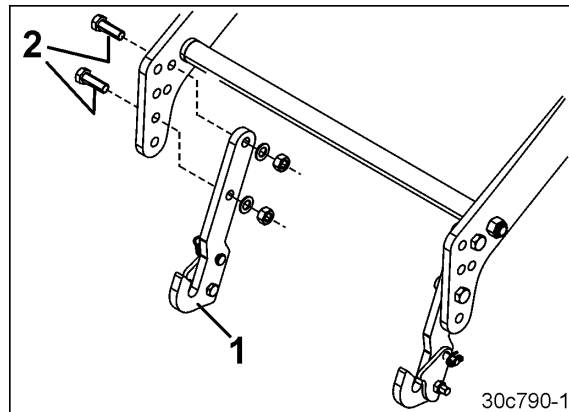

Fig. 88
1. Fasten the catch hooks (Fig. 88/1) to the lifting frame using two bolts for each one (Fig. 88/2).